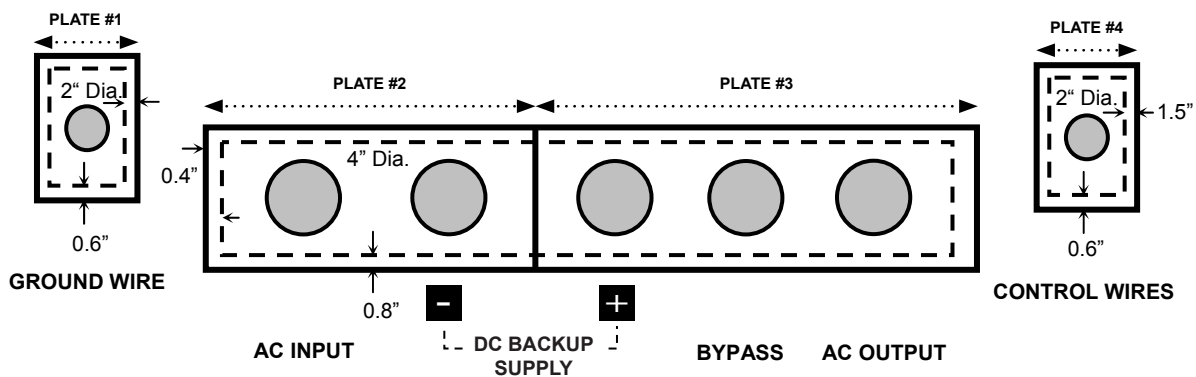

FIGURE 11.9 - TERMINAL KNOCKOUT PLATES FOR THE 300 KVA UPS
Figure 11.9 shows the four (4) cable knockout plates provided at the top of the 300 kVA UPS. Seven (7) holes must be punched during installation. The dashed rectangle indicates the UPS opening behind the knockout plates.